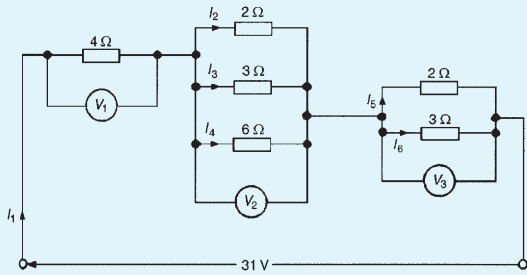

Figure 5.33
9. Determine the currents and voltages indicated in the circuit shown in Fig. 5.33.